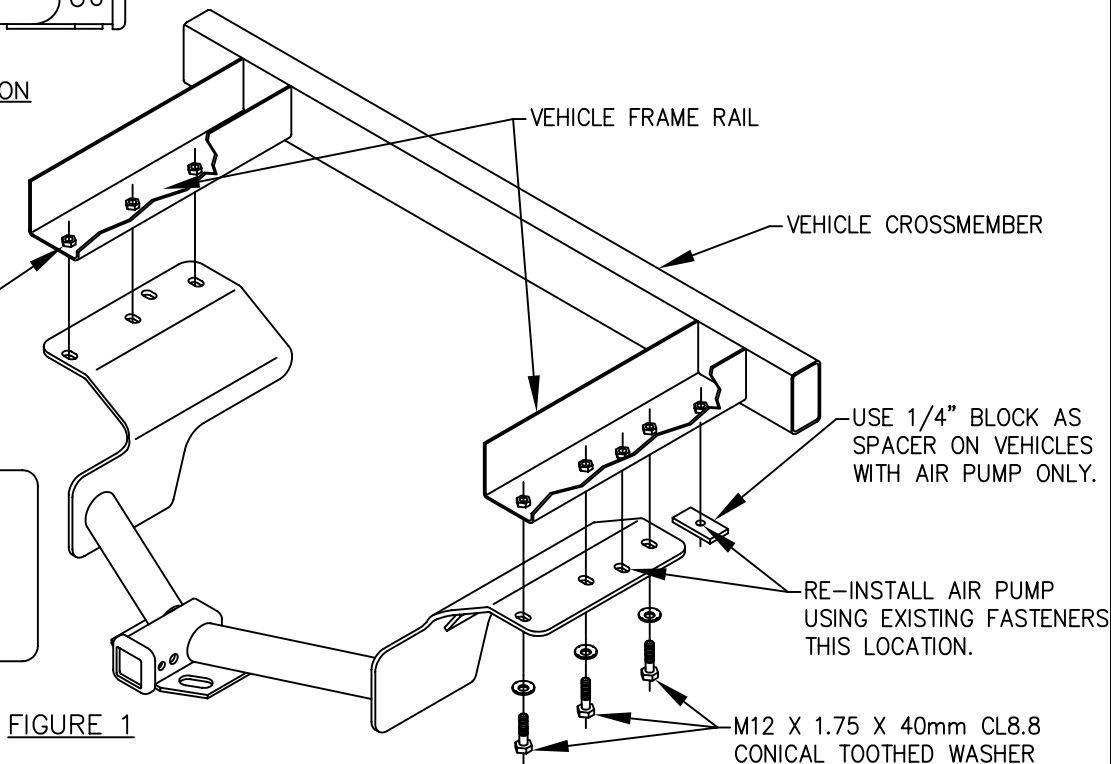

FIGURE 1
7. RAISE HITCH INTO POSITION AS SHOWN IN FIGURE 1.
8. INSTALL M12 BOLTS AND 1/2" CONICAL TOOTHED WASHERS AS SHOWN IN FIGURE 1.
9. REINSTALL AIR PUMP USING EXISTING BOLTS AS SHOWN IN FIG. 1. BE SURE TO PLACE 1/4" BLOCK BETWEEN PUMP AND FRAME RAIL AT FORWARD ATTACHMENT AS SHOWN.